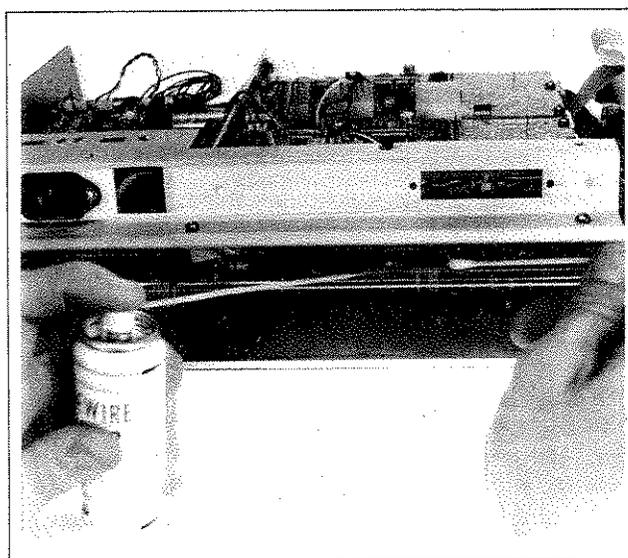

Figure 8-1. Slidewire Cleaning
c. Spray X-axis wiper contacts with slidewire cleaner (HP Part No. 5080-3605). Spray industrial cotton applicator (HP Part No. 5080-5400) with slidewire cleaner and rub along X-axis slidewire. See Figure 8-1.